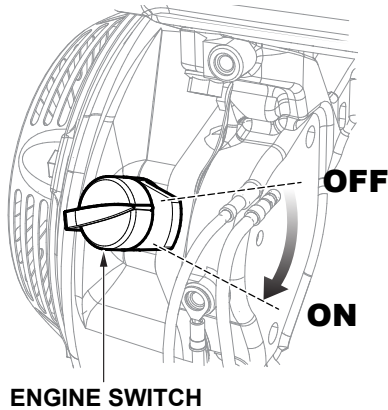

Figure 33. Engine ON/OFF Switch (ON)
- Place the engine ON/OFF switch in the **ON** position (Figure 33).